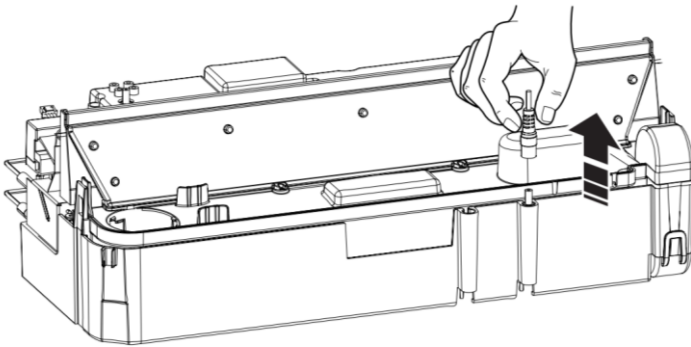

Fig 27
4. Disconnect the electrical connector to the transducers, located on the right side of the sump. (Fig 27)